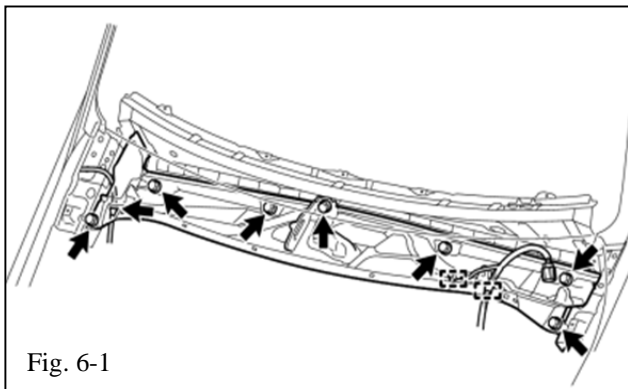

Fig. 6-1
- (a) Disconnect the washer hose and detach the 2 wire harness clamps (Fig. 6-1).
- (b) Remove the 2 bolts and the cowl top outer sub-assembly (Fig. 6-1).